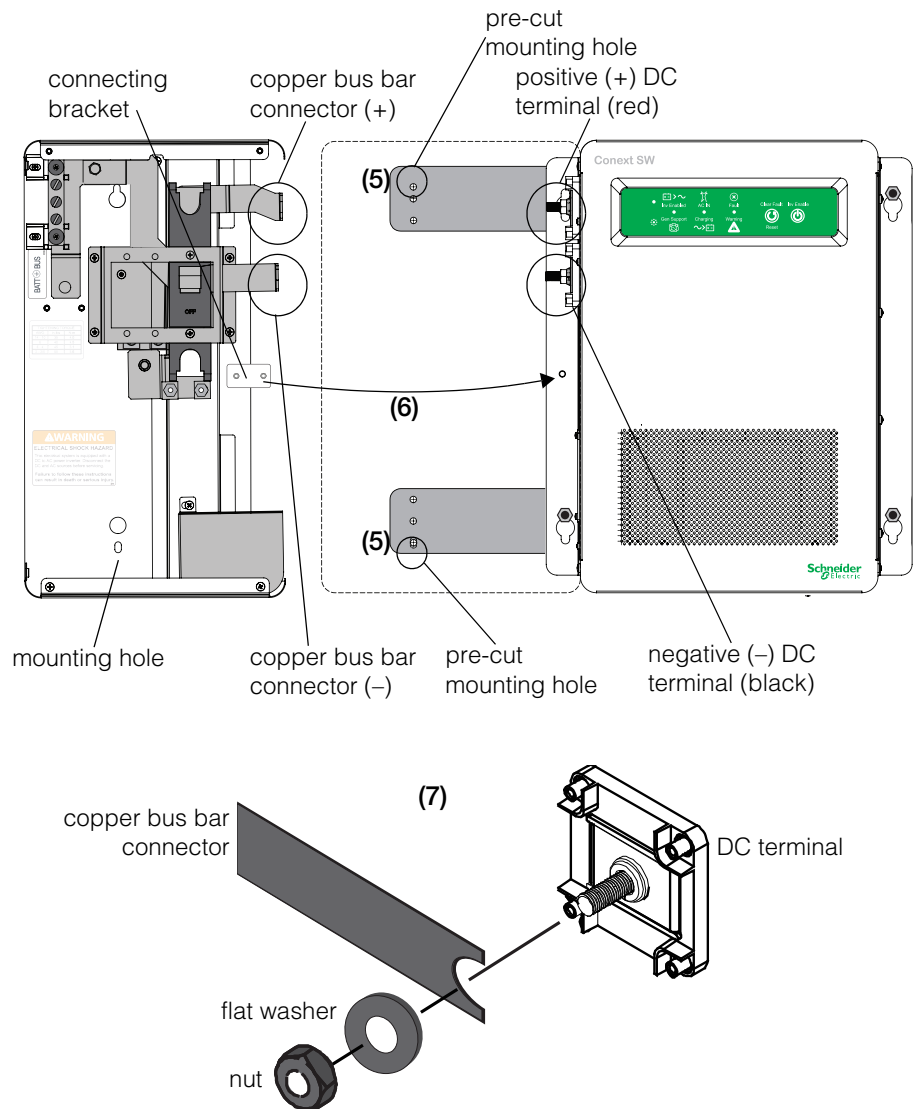

Figure 1-12 Installing the DC Switchgear
- Make sure the bus bar, washer, and nut are assembled in the order shown in Figure 1-12 on page 1–25..